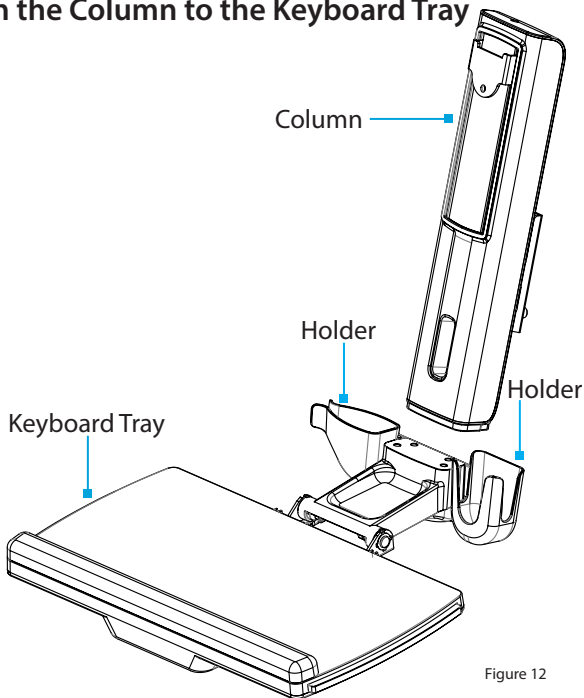

Figure 12
2. Align the **Assembly Holes**, located on the bottom of the **Column**, with the **Assembly Holes**, located between the **Holders** on the **Keyboard Tray**. (Figure 12)